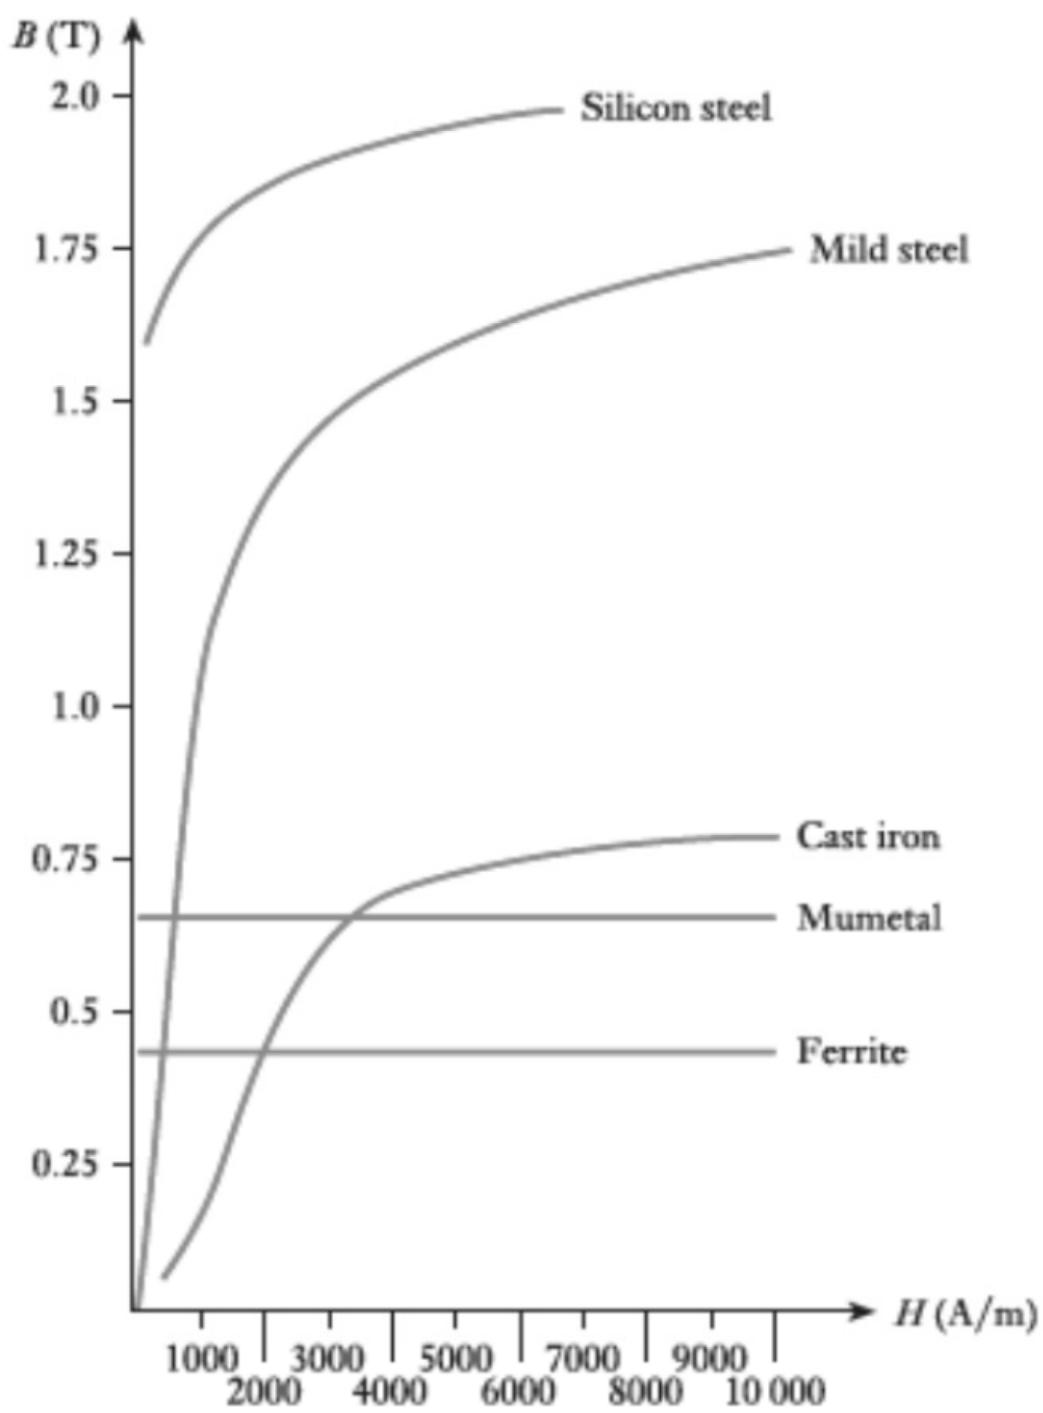

Figure:1
*Data of B/H, when not given in question, should be taken from Fig. 1.*